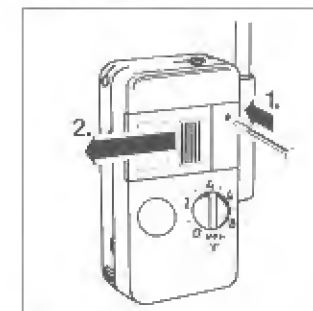

Figure 4
A frequency change can be necessary, for instance, when two wireless systems within the same school use the same frequency and interfere with each other. To permit parallel operation of two or three systems within a school, the EK 1013-6-1 can operate on different frequencies. The sliding panel (2) contains the receiver component that determines the frequency. You can prepare the receiver for operation on another frequency by replacing the panel (fig. 4).